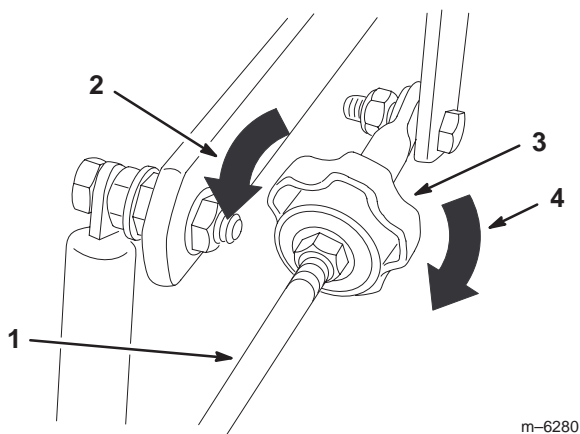

Figure 55
4. To make the machine go right, turn the knob towards the rightside of the machine. Refer to figure 55.
5. To make the machine go left, turn the knob towards the leftside of the machine. Refer to figure 55.